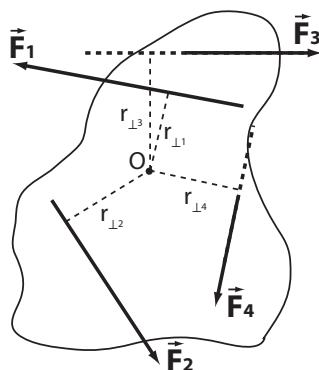

Figure 1: Torques about the point 'O'
The forces acting on a planar body are shown in Figure 1. An arbitrary point 'O' about which to sum the torques has been chosen and the *lever arms* (perpendicular distances from the lines of action of each of the forces to the chosen point) have been drawn. In this example, \vec{F}_1 and \vec{F}_2 will tend to rotate the body in a counter-clockwise (positive) direction about point O while \vec{F}_3 and \vec{F}_4 will tend to rotate the body in a clockwise (negative) direction. The second condition for equilibrium will be satisfied if the algebraic sum of the four torques is zero. For the above example
8. Choose & label a point 'O' that is INSIDE the outline of your plate about which to sum the torques. Any point *should* work; however, to reduce error **DO NOT CHOOSE the centre of gravity (CG) or a point which lies within 1 cm of the line of action of any of the forces.**
9. Using a sharp pencil, a ruler, and a triangle, **draw perpendiculars** from the (extended) lines of action of the forces to the point 'O'. As shown in Figure 1, label the perpendicular distances from each of the force lines to the point 'O' as $r_{\perp i}$. **PROPERLY measure & record these distances (in cm). Enter your $r_{\perp i}$ values (in m) in the table.** Show a sample calculation below the table.